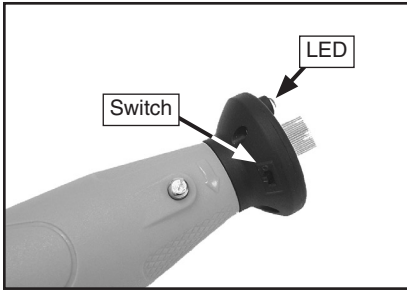

Figure 2. LED light attachment installed.
3. Thread and hand-tighten the light attachment onto the grinder (see **Figure 2**).